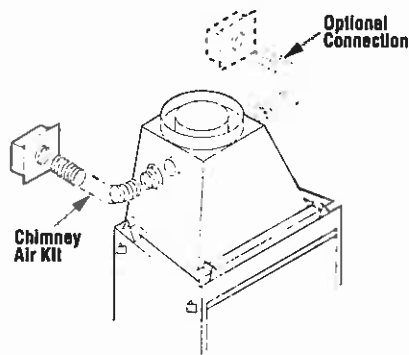

Figure 19
Step 6. Remove one of the knockouts from the fireplace transition and attach the 4" (102 mm) collar from the air kit to the transition with four (4) No. 8 x 1/2" screws provided (Figure 19).